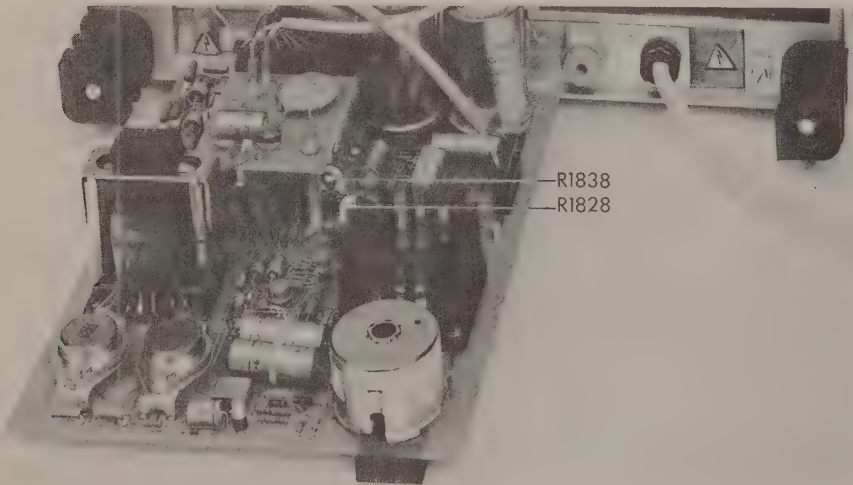

Fig. 3.25. Power supply with adjusting references
- Check that the trace width is 8 DIV $\pm$ 1,5 DIV; (mains voltage 220 V) if necessary, readjust potentiometer R669 on the main-time base circuit board, Fig. 3.22. (in instruments of the —/01 model, this potentiometer is located on the power supply circuit board, R1838, Fig. 3.25).
- Attention:** The power supply unit is provided with one pre-set potentiometer R1828 Fig. 3.25, which controls the d.c. output of the circuit. **DO NOT READJUST THIS POTENTIOMETER UNLESS IT IS STRICTLY NECESSARY.** A consequence of readjusting this potentiometer is that all d.c. output voltages change, so that several circuits of the oscilloscope (e.g. time base sweep) must be recalibrated. In the factory this potentiometer has been adjusted to the nominal value of the +15 V output (measured on point 6 of the 6-pole connector of the power supply). This voltage must be +15 V $\pm$ or $\pm$ 200 mV.
- Mains voltage 90 V; if necessary adjust the +15 V output voltage (+ or – 150 mV tolerance is allowed) with the aid of R1828 (Fig. 3.25).